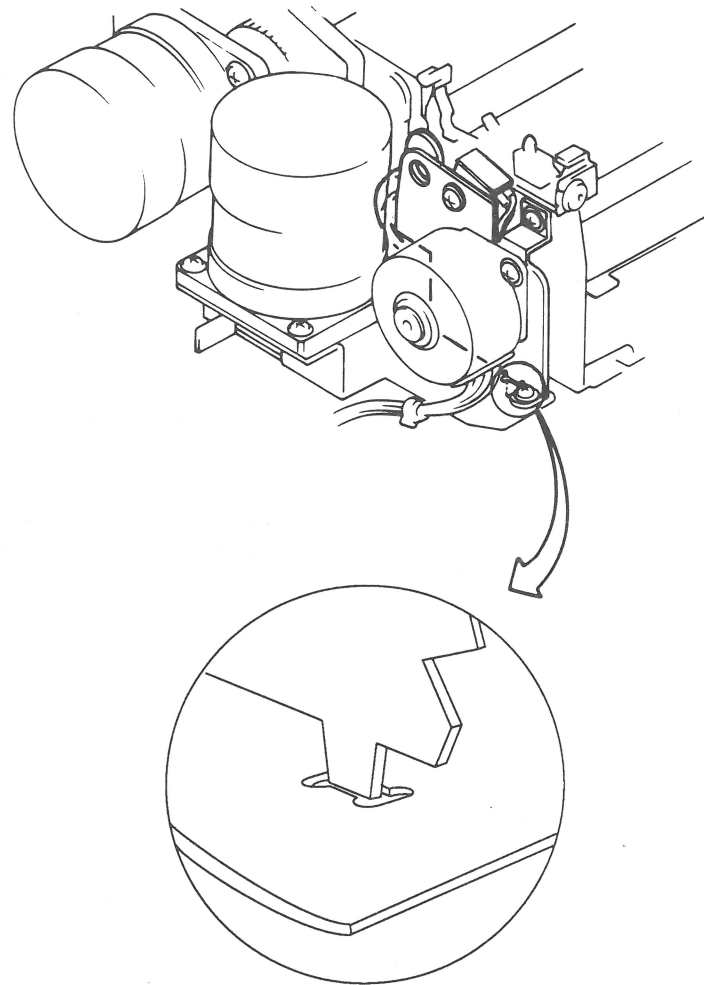

FIGURE 54
3. Place the ribbon motor assembly against the frame. The left shift gear should engage with the carriage shaft. Also, the projection at the base of the ribbon motor holder should be inserted into the frame (Figure 54).